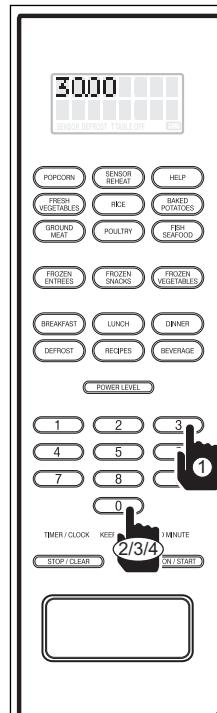

Figure 3-47.
6. Enter desired keep warm time duration. For example: 30 minutes; press the number 3 key, then the number 0 key three times (See Figure 3-47), and the display will flash "PRESS START - .30.00".